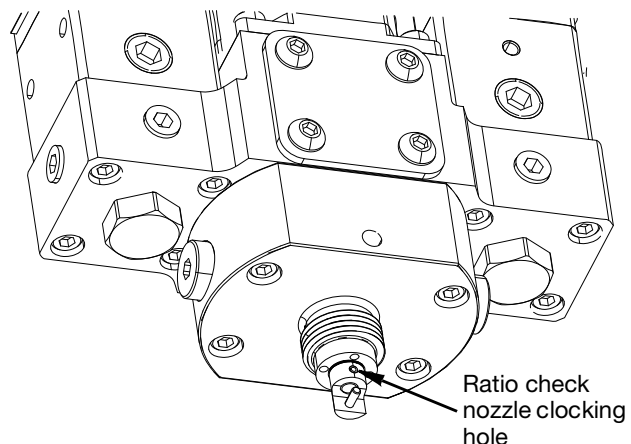

FIG. 39
- Clean tip of nozzle with compatible solvent. Make sure the ratio check nozzle clocking hole is free of material. See FIG. 39.